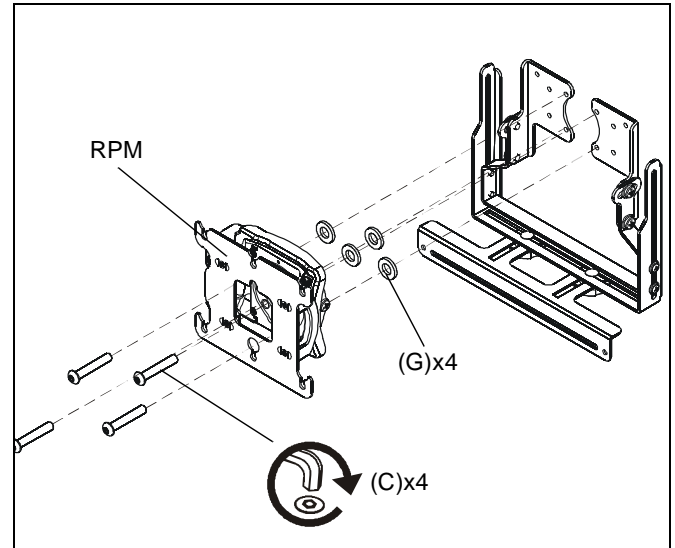

Figure 3
1. Attach RPM to PAN2 (A) using four 1/4"-20 x 1-1/2" button head cap screws (C) and four 6mm flat washers (G). (See Figure 3).